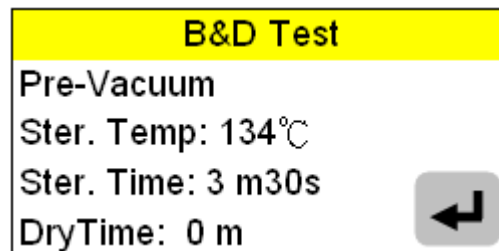

Figure 97
- E. Press  button to confirm the selection of B&D Test Program, as shown in Figure 97.